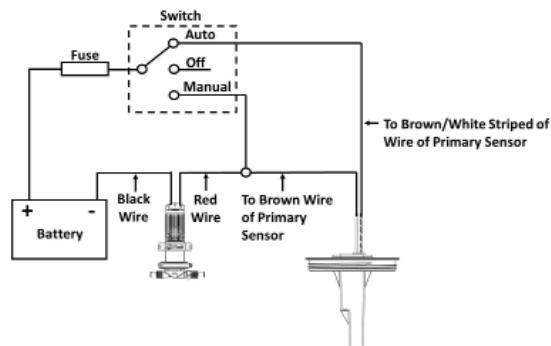

Figure 9 Wiring Diagram
| Fig. 9 | Wiring Diagrams |
- **WARNING:** Installation **must** be carried out by a qualified electrician. Improper wiring can cause a fire resulting in injury or death. Suggested wiring information (Figure 9) is given as a guide only, and wiring **must** comply in accordance with the applicable electrical standards. Appropriate size fuses or circuit breakers **must** be installed.
Step 6: Wiring: See Figures 9 and 10.
Incorrect wiring	Check wiring Figures 9 and 10